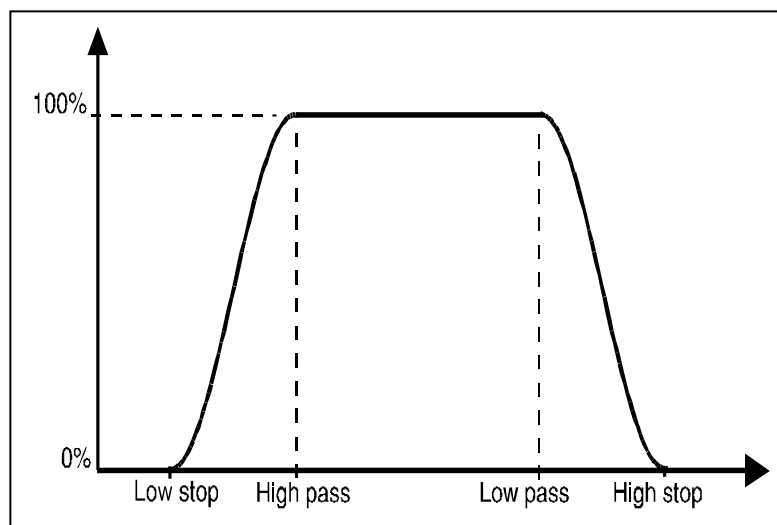

Figure 5-10 Characteristics of the digital bandpass filter.
The bandpass filtering is performed in the frequency domain by applying a window to the complex Fourier transformed time series of the acquired signal and perform a subsequent inverse Fourier transform. The window characteristic, which is displayed in Figure 5-10, is defined by four frequencies: lowstop (LS), highpass (HP), lowpass (LP) and highstop (HS). These frequencies are defining full stop and full pass points. The transition between these points has a cosine shape.
By adjusting the high-pass/low-pass corner frequencies manually in the shading function, see Figure 5-10, sidelobe levels can be reduced..